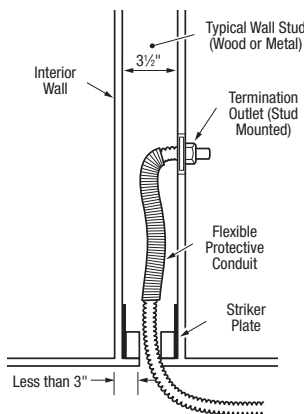

Figure 4.11 Use of Flexible Protective Conduit
- At termination points using the HOME-FLEX® termination flange, HOME-FLEX® Flexible Protective Conduit should be installed to protect the CSST in the area between the striker plates and the outlet. (Figure 4.11)